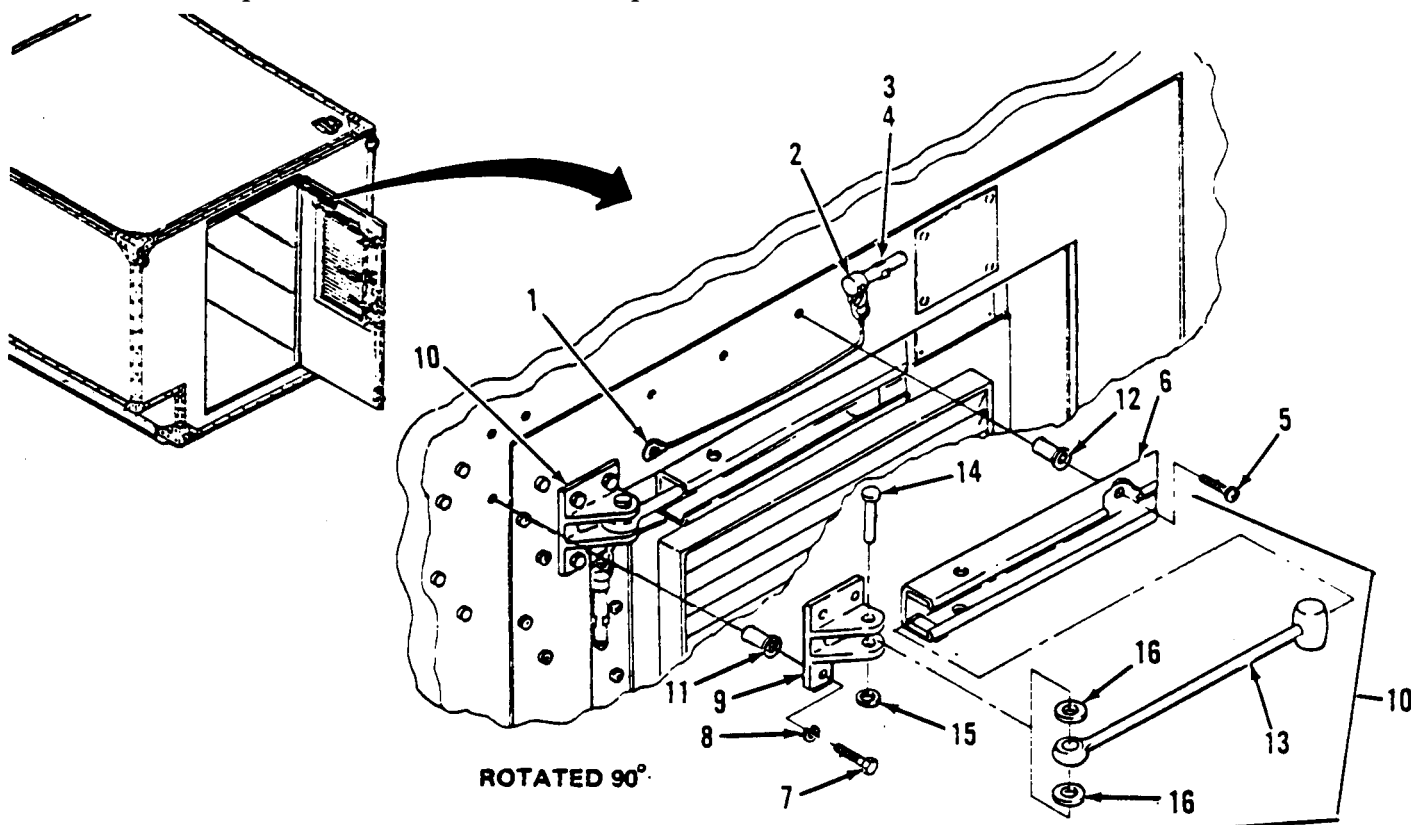

Figure 3-34. Door Stay Assembly Repair and Replacement.
- a. *Inspect*. (Figure 3-34)
- (1) Inspect for missing or damage hardware.
- (2) Inspect for wear, dents, or other damage.
- (3) Inspect that rod (13) moves freely.
- (4) Inspect for secured or damaged detent pin (2).
- b. *Remove*. (Figure 3-34)
- (1) Drill out rivet (1) attaching lanyard tab of detent pin (2) and remove detent pin.
- (2) Drill out two rivets (3) attaching spring tension clip (4) and remove clip (4).
- (3) Push door open and remove and retain three phillips head screws (5) attaching door stay channel (6) to door panel (outer or inner door).
- (4) Remove and retain three hex-head screws (7) and lock washers (8) attaching door stay bracket (9) to panel (shelter or inner door), and remove door stay assembly (10).
- (5) Inspect condition of rivnuts (11 and 12) and replace if necessary (paragraph 3-9.b).
- c. *Disassemble*. (Figure 3-34)
- (1) Push channel assembly (6) out of door stay rod (13).
- (2) Grind off end of pin (14) and remove flat washer (15).
- (3) Remove pin (14) to release door stay rod (13) and two flat washers (16) from bracket (9).
*e.* Assemble. (Figure 3-34)
- (1) Position two flat washers (16) and door stay rod (13) in place inside bracket (9) end secure in place with pin (14).
- (2) Push flat washer (15) in place from bottom of pin (14), and peen end of pin (14) over to hold washer (15).
- (3) Slide rod end (13) into channel assembly (6).
*f.* Install. (Figure 3-34)
- (1) Position channel assembly (6) on door panel (outer or inner door) and secure to panel with three phillips head screws (5) after dipping screws in sealer.
- (2) Position bracket (9) in place on panel (shelter or outer door panel) and secure with three hex-head screws (7) dipped in sealer, and three lock washers (8).
- (3) Position spring tension clip (4) and secure to panel with two rivets (3) dipped in
- (4) With a rivet (1) dipped in sealer, attach lanyard tab of detent pin (2) to door panel (outer or inner door panel).